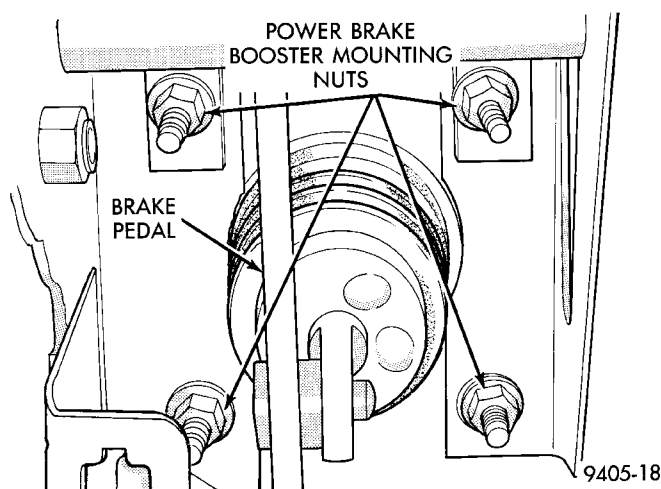

Fig. 119 Power Brake Booster Mounting
(11) Remove the 4 nuts attaching the power brake vacuum booster to the dash panel (Fig. 119). The nuts are accessible from under the instrument panel in the area of the steering column and brake pedal bracket.
- (1) Position power brake booster onto dash panel.
- (2) Install and torque the 4 power brake vacuum booster mounting nuts (Fig. 119) to 29 N·m (250 in. lbs.) torque.